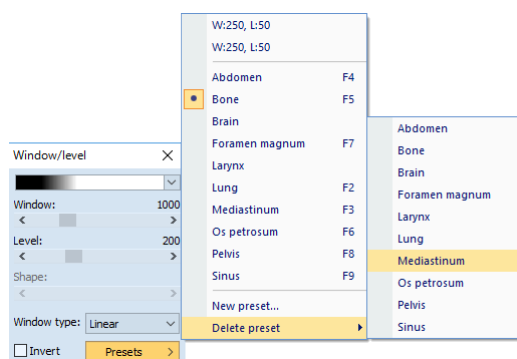

Figure 168 – Deleting a window/level preset
3. Select the preset you want to remove in the displayed submenu list (see Figure 168).